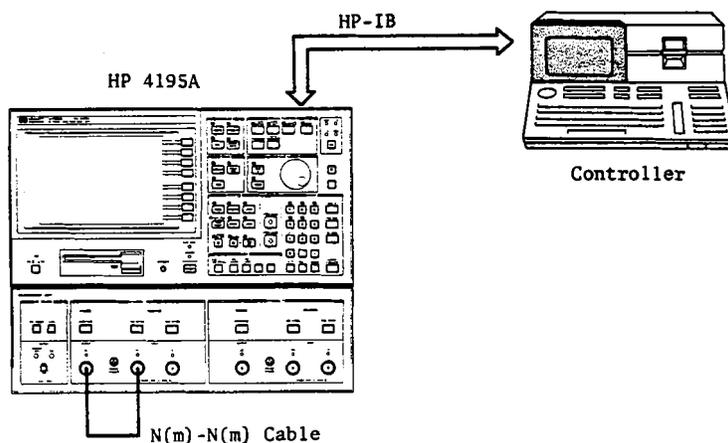

Figure 3-150. Signal Source Linearity Calibration Setup
2. Connect an N(m)-N(m) cable from **OUTPUT S1** to **INPUT R1**, as shown in Figure 3-150.
2. Connect an N(m)-N(m) cable from **OUTPUT S1** to **INPUT R1** connector, as in the Signal Source Linearity Calibration as shown in Figure 3-150.